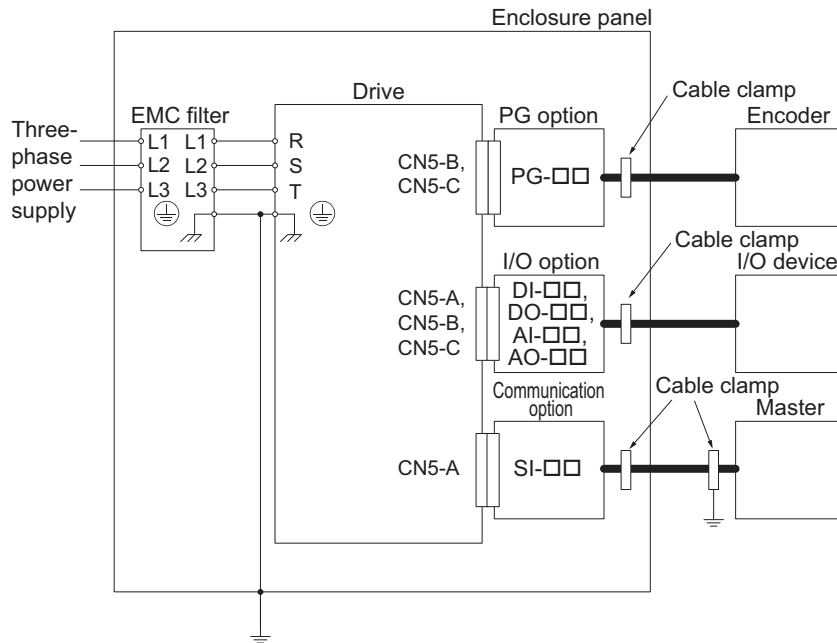

Figure 30 Option Installation for CE Compliance (PG-□□, DI-□□, DO-□□, AI-□□, AO-□□, SI-□□)
2. Keep wiring as short as possible and ground the largest possible surface area of the shield to the metal panel according to Figure 30.